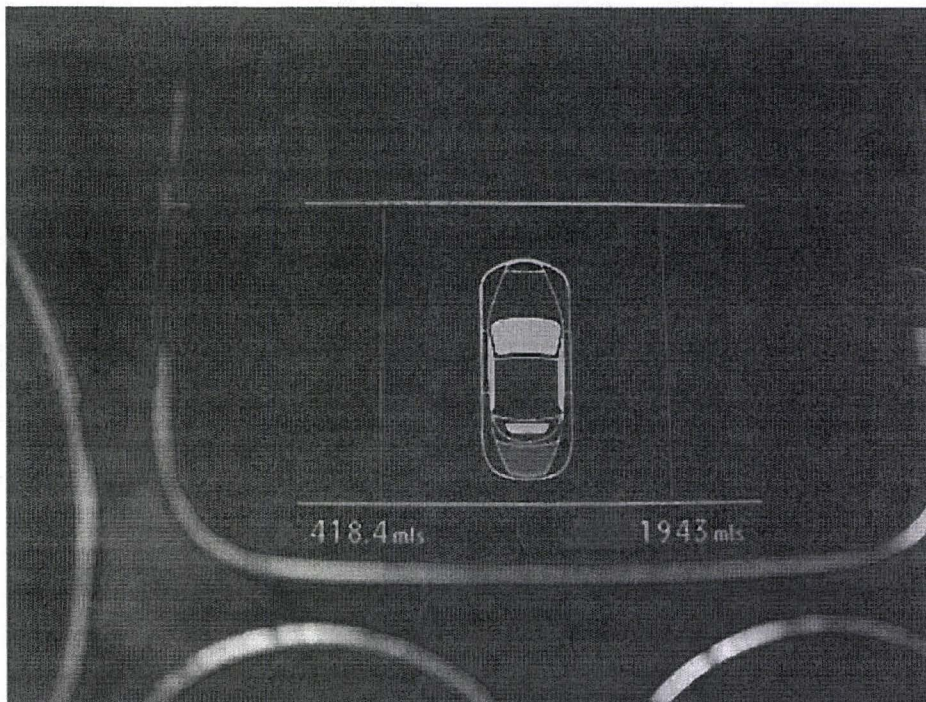

Figure 1
- The boot lid is fully latched however the boot open warning light is still illuminated in the DIP (Figure 1) or the boot latches and re-opens, the process in Section 2 describes how to adjust the boot lid overload switch.